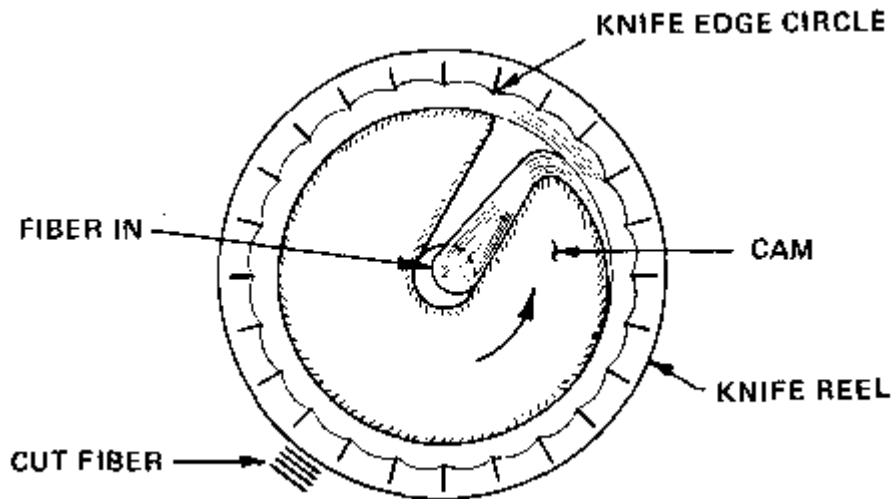

Figure 16
5. **Reel and cam:** See Figure 16. In this method, fiber is fed into the hollow of a cam to the interior of a sunburst of inwardly pointing knives. Fiber builds between the inner knife edges and the cam, and is forced outwardly to be cut and escape between the diverging knife surfaces. The original MiniFibers cutter was the first machine of this type. It was developed to avoid the stuffing and blocking problems found in the Lummus machine, and is best suited for cutting short staple for wet lay nonwoven use. The fiber does not stuff, because the escape slot is a diverging one and the cut fiber is free to escape without pressure. The machine is a slow squeeze (boa constrictor) type cutter with many advantages. Two disadvantages are frictional heat buildup on the fiber from the sliding cam action, and side thrust of the fiber against the knife.